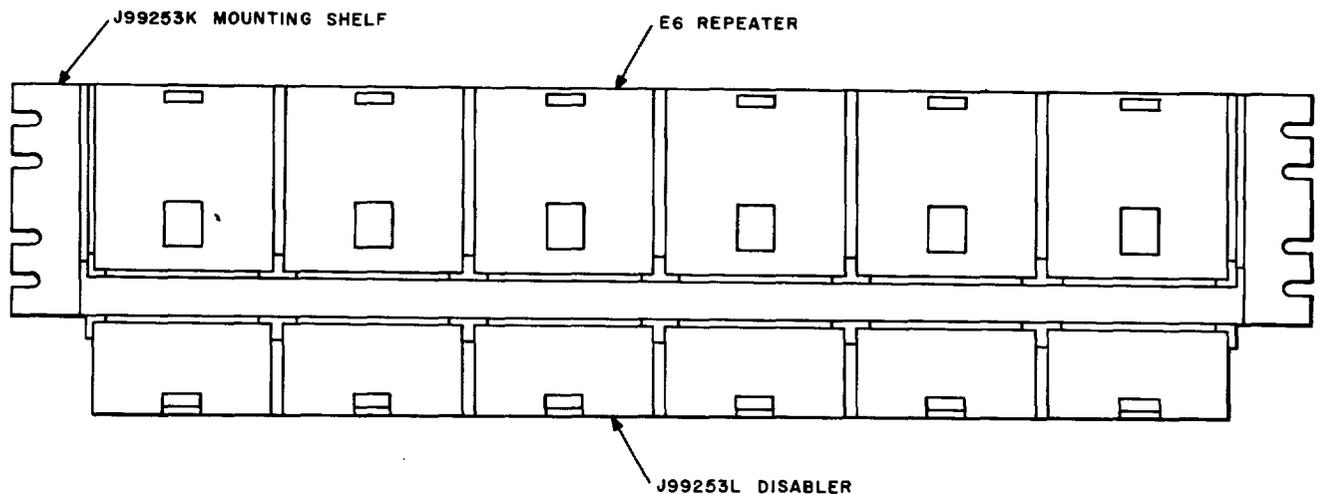

Fig. 3—E6 Repeaters with J99253L Disablers—Mounting Arrangement
3.01 The J99253K mounting shelf is provided for mounting E6 repeaters and J99253L disablers. The mounting shelf fits into a 23-inch relay rack and has a capacity of six repeaters, which are mounted on the top surface of the shelf, and six disablers, which are mounted on the bottom surface of the shelf. Each shelf, when equipped with disablers, requires four 1-3/4 inch mounting-plate spaces. The arrangement is shown in Fig. 3. A 23-inch relay rack, 11 feet 6 inches high, has a capacity of 16 shelves (96 repeaters and disablers) without test jacks, or 15 shelves (90 repeaters and disablers) with test jacks. A 23-inch relay rack, 9